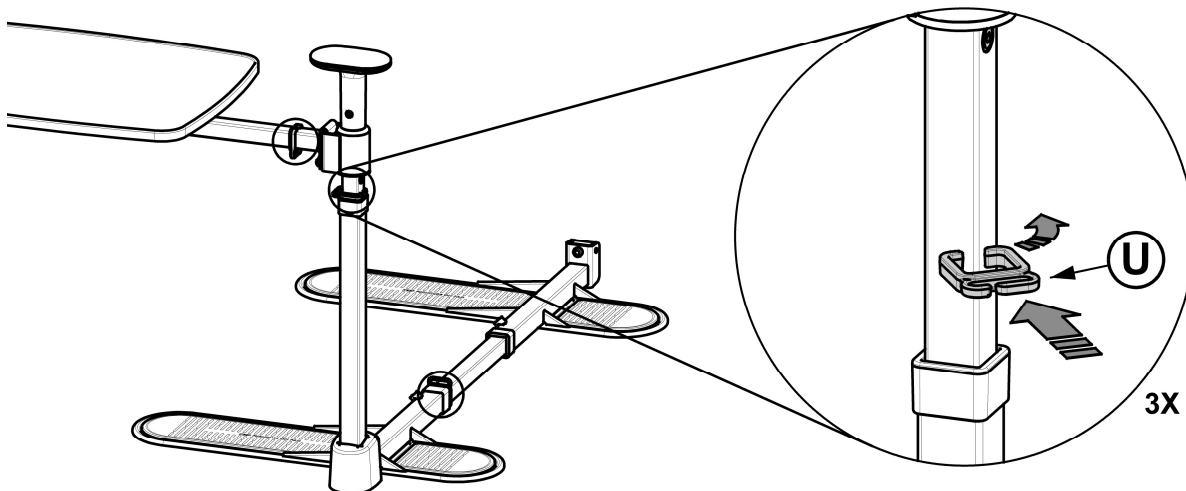

FIGURE 12
12. Optional POWER CORD CLIPS **U** (3x) are provided. Firmly press POWER CORD CLIP onto corner of tube and rotate onto any orientation as shown in *FIGURE 12*. Suggested locations shown.